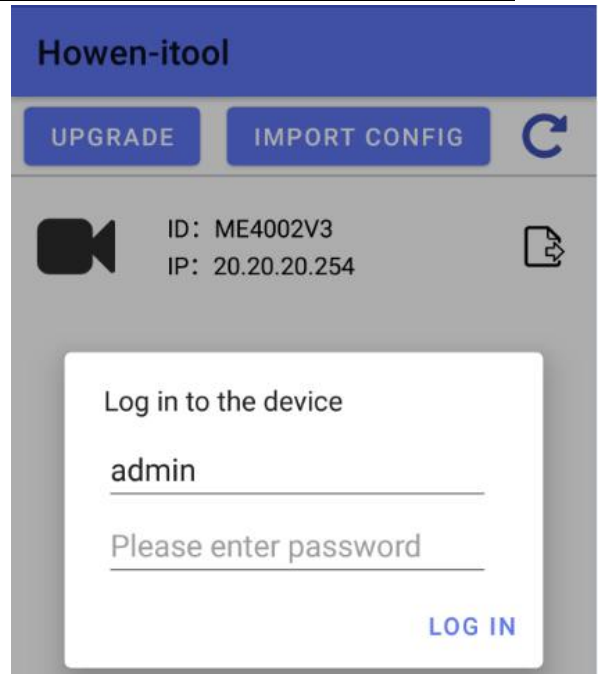

Fig.3.3 Login
Step 2: Input the password and login. (Fig.3.3)